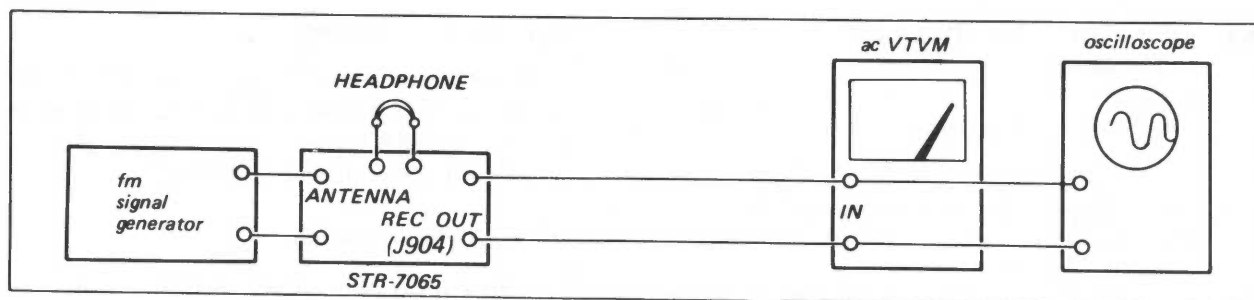

Fig. 3-4. Fm i-f, discriminator, muting and front-end alignment test setup
2. Connect the test equipment and a monitor speaker as shown in Fig. 3-4.
1. With the equipment connected as shown in Fig. 3-4, set the signal generator controls as follows:
1. With the equipment connected as shown in Fig. 3-4, set the receiver controls as follows:
2. Connect the test equipment as shown in Fig. 3-4.
1. With the equipment connected as shown in Fig. 3-4, set the signal generator and receiver controls as follows: